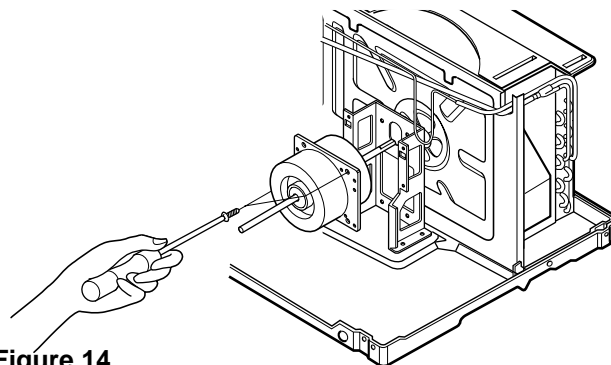

Figure 14
7. Remove the 2 screws which fasten the motor from the mount motor. (See Figure 14)
9. Re-install the components by referring to the removal procedure, above.(See Figure 14)